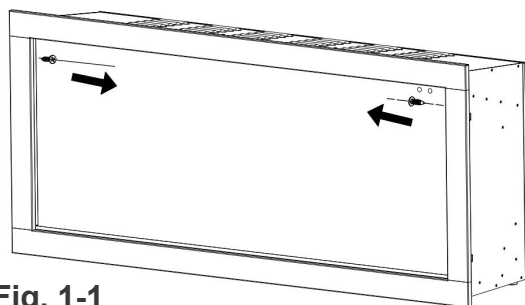

Fig. 1-1
- Take off the screws on both side.(Fig. 1-1)